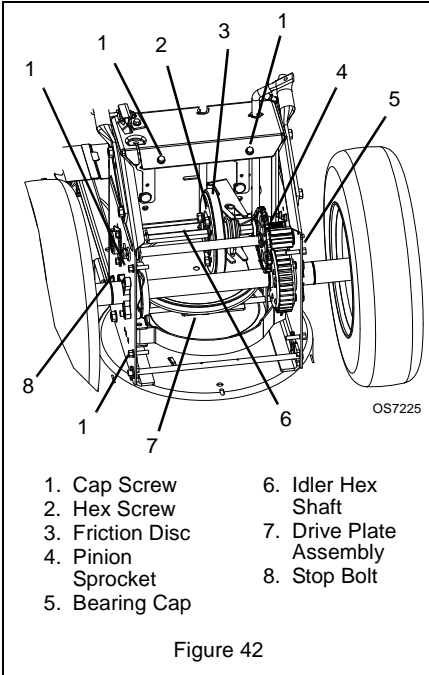

Figure 42
2. To gain belt clearance, back out the stop bolt from the frame until the drive plate assembly can swing past it (Figure 42).